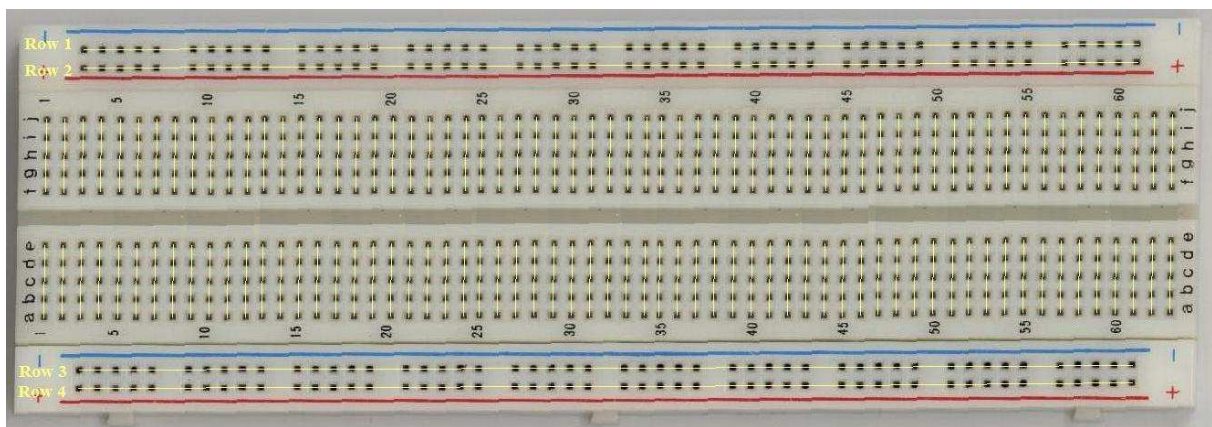

Fig.1 Yellow lines show connected holes.
- superstrip prototyping board (Fig.1),